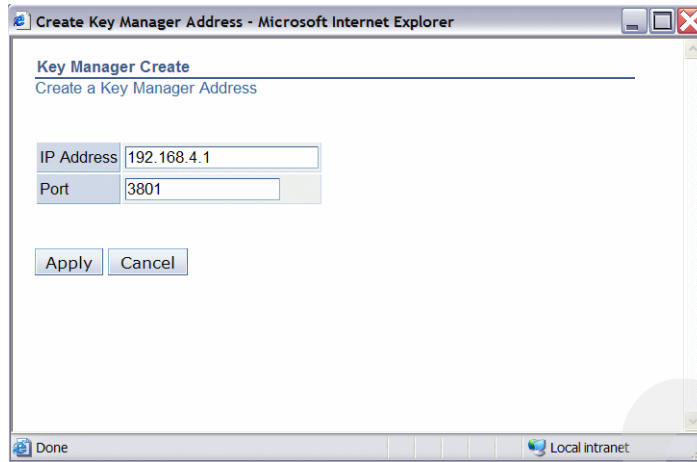

Figure 6-70 Key manager IP address
4. The Create Key Manager Address window opens. Enter the IP address (Port field must be prefilled) and click **Apply**, as shown in Figure 6-70.